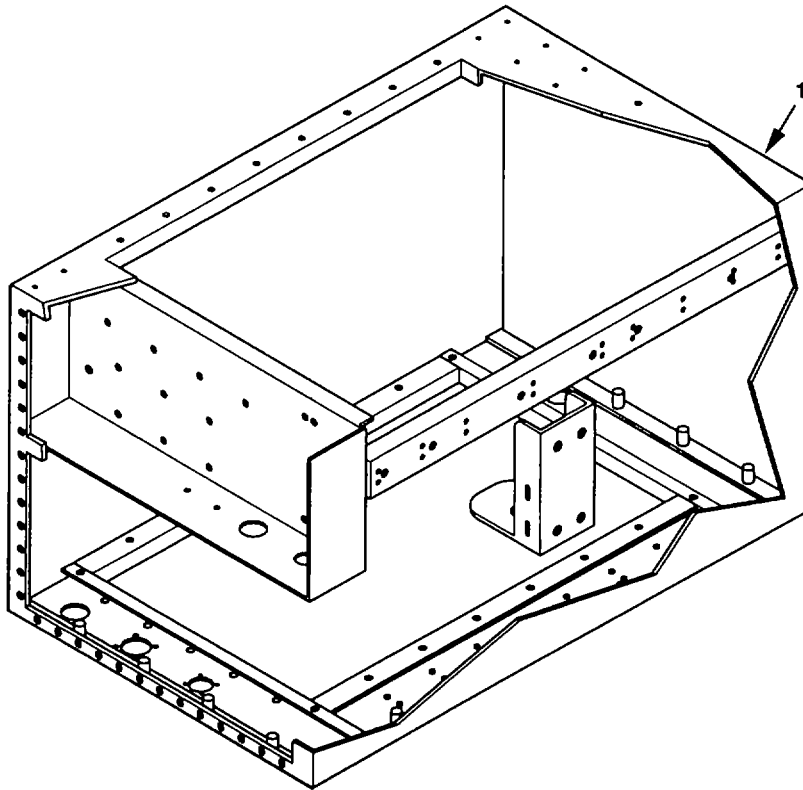

Figure 6-1. Condenser Housing.
**a. Remove.** Placing the condenser housing (Figure 6-1, 1) in the equipment conditions specified above will remove it from the system.